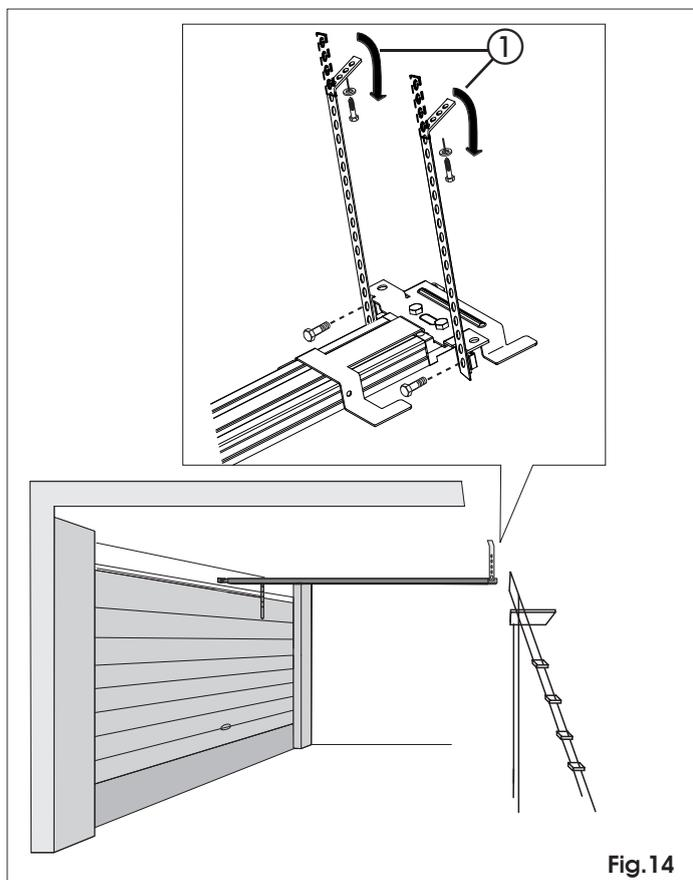

Fig.14
- 11) Fit the brackets on the rear fitting and re-position the sliding guide (Fig. 14).